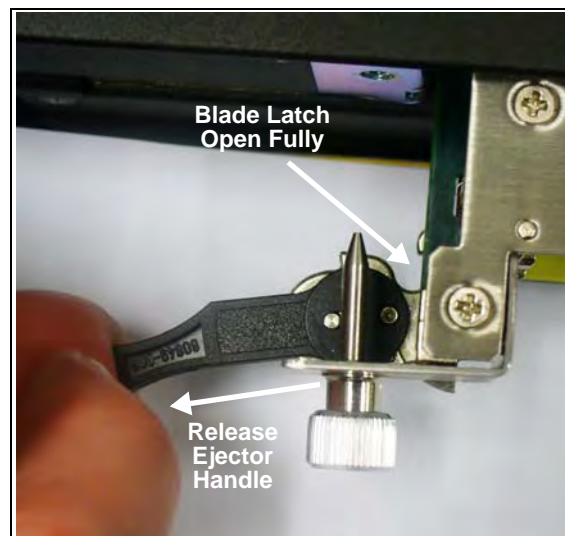

Figure C.28 - G10 IIC Ejector Handle - Open Blade Latch
3. Swing the handles outward until the blade latch is open fully (**Figure C.28**) and then release the ejector handle.